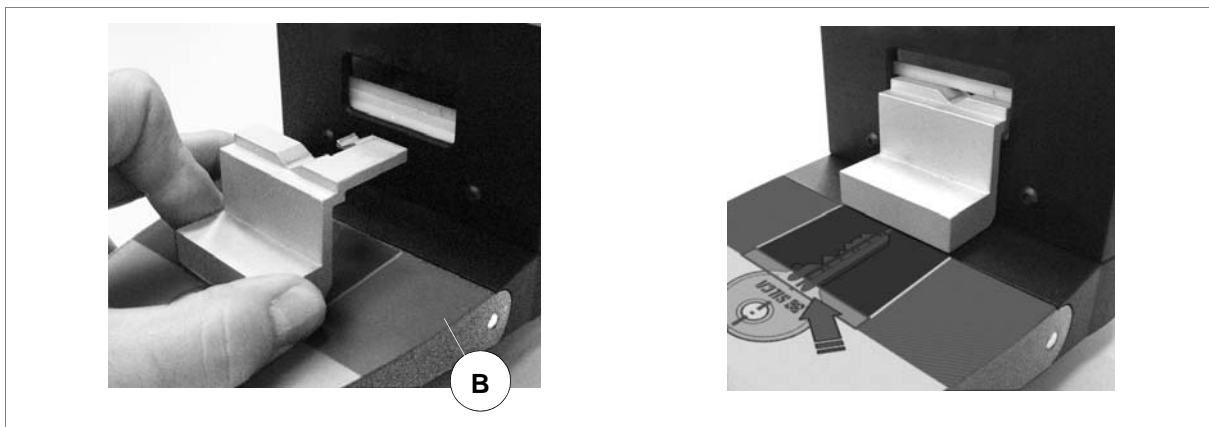

Fig. 33
- 1) Lower the lever (B) on the clamp and fit the adapter all the way up against the illuminators (fig. 33).